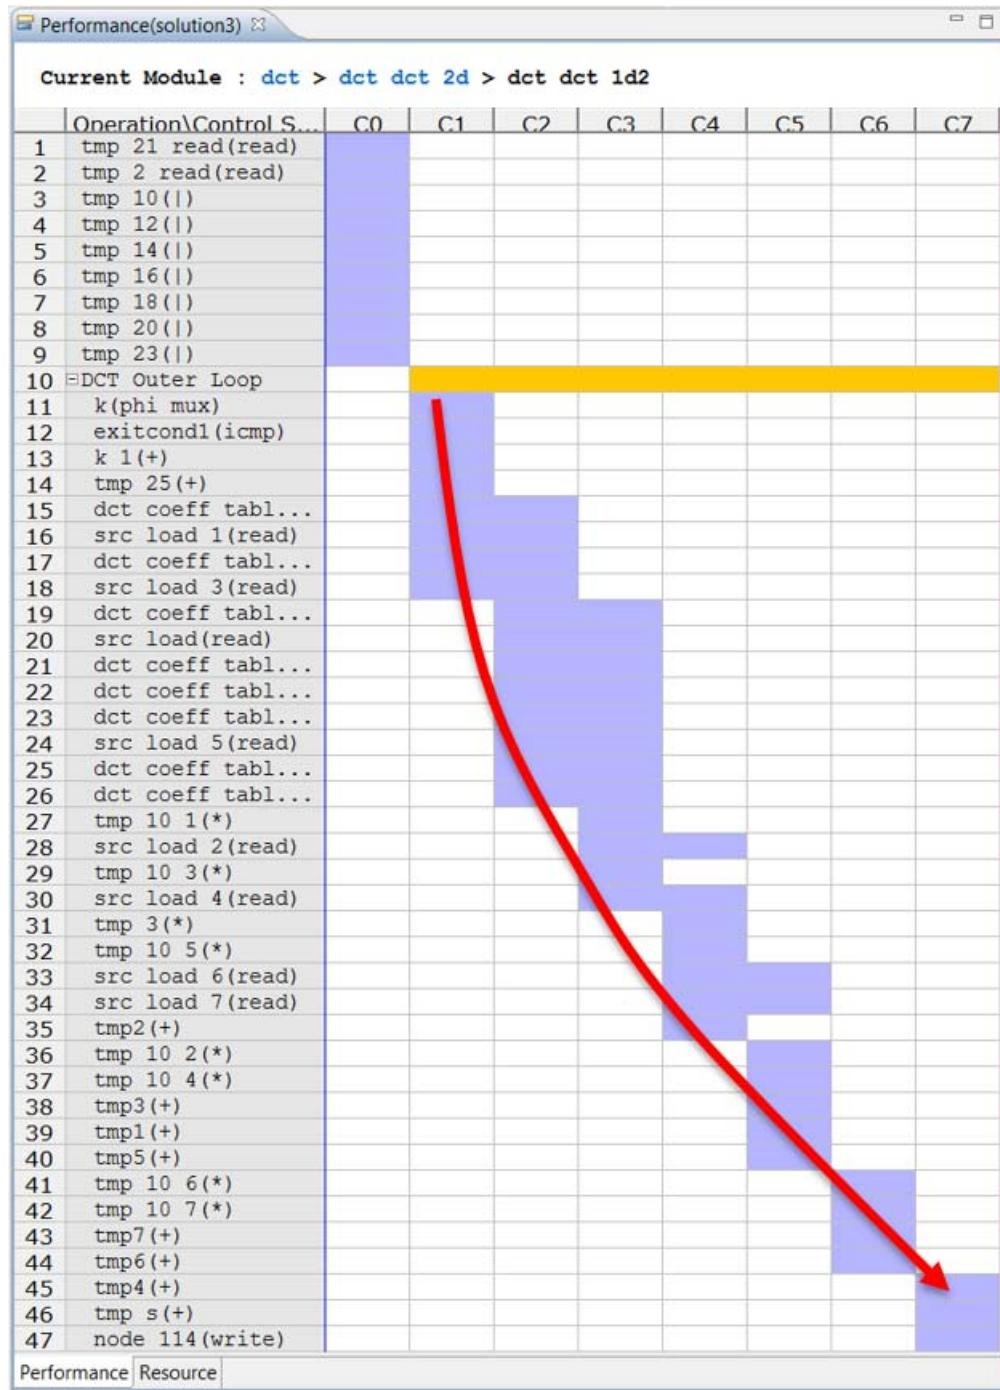

Figure 6-23: Analysis of **dct_1d RD_Loop_Row**
13. Expand the `DCT_Outer_Loop` to see the view shown in Figure 6-23.
Figure 6-23 shows a very different view from the earlier loop schedules (which had only a few cycles of latency). The schedule shows a long drift from input to output (as shown by the red arrow).
Figure 6-23 shows the analysis of `dct_1d RD_Loop_Row`.